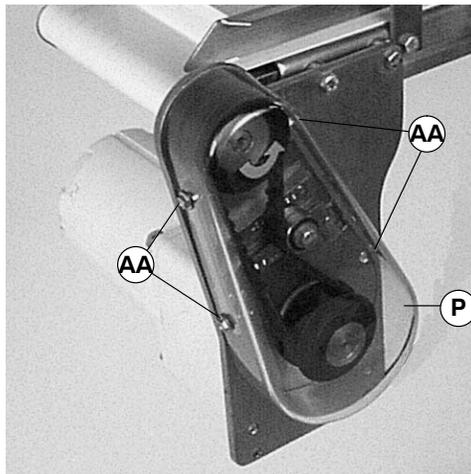

Figure 8
NOTE: Do not over-tighten screws (AA of Figure 8).
9. Install cover (P of Figure 8) and tighten four screws (AA) to 35 in-lb (4 Nm).